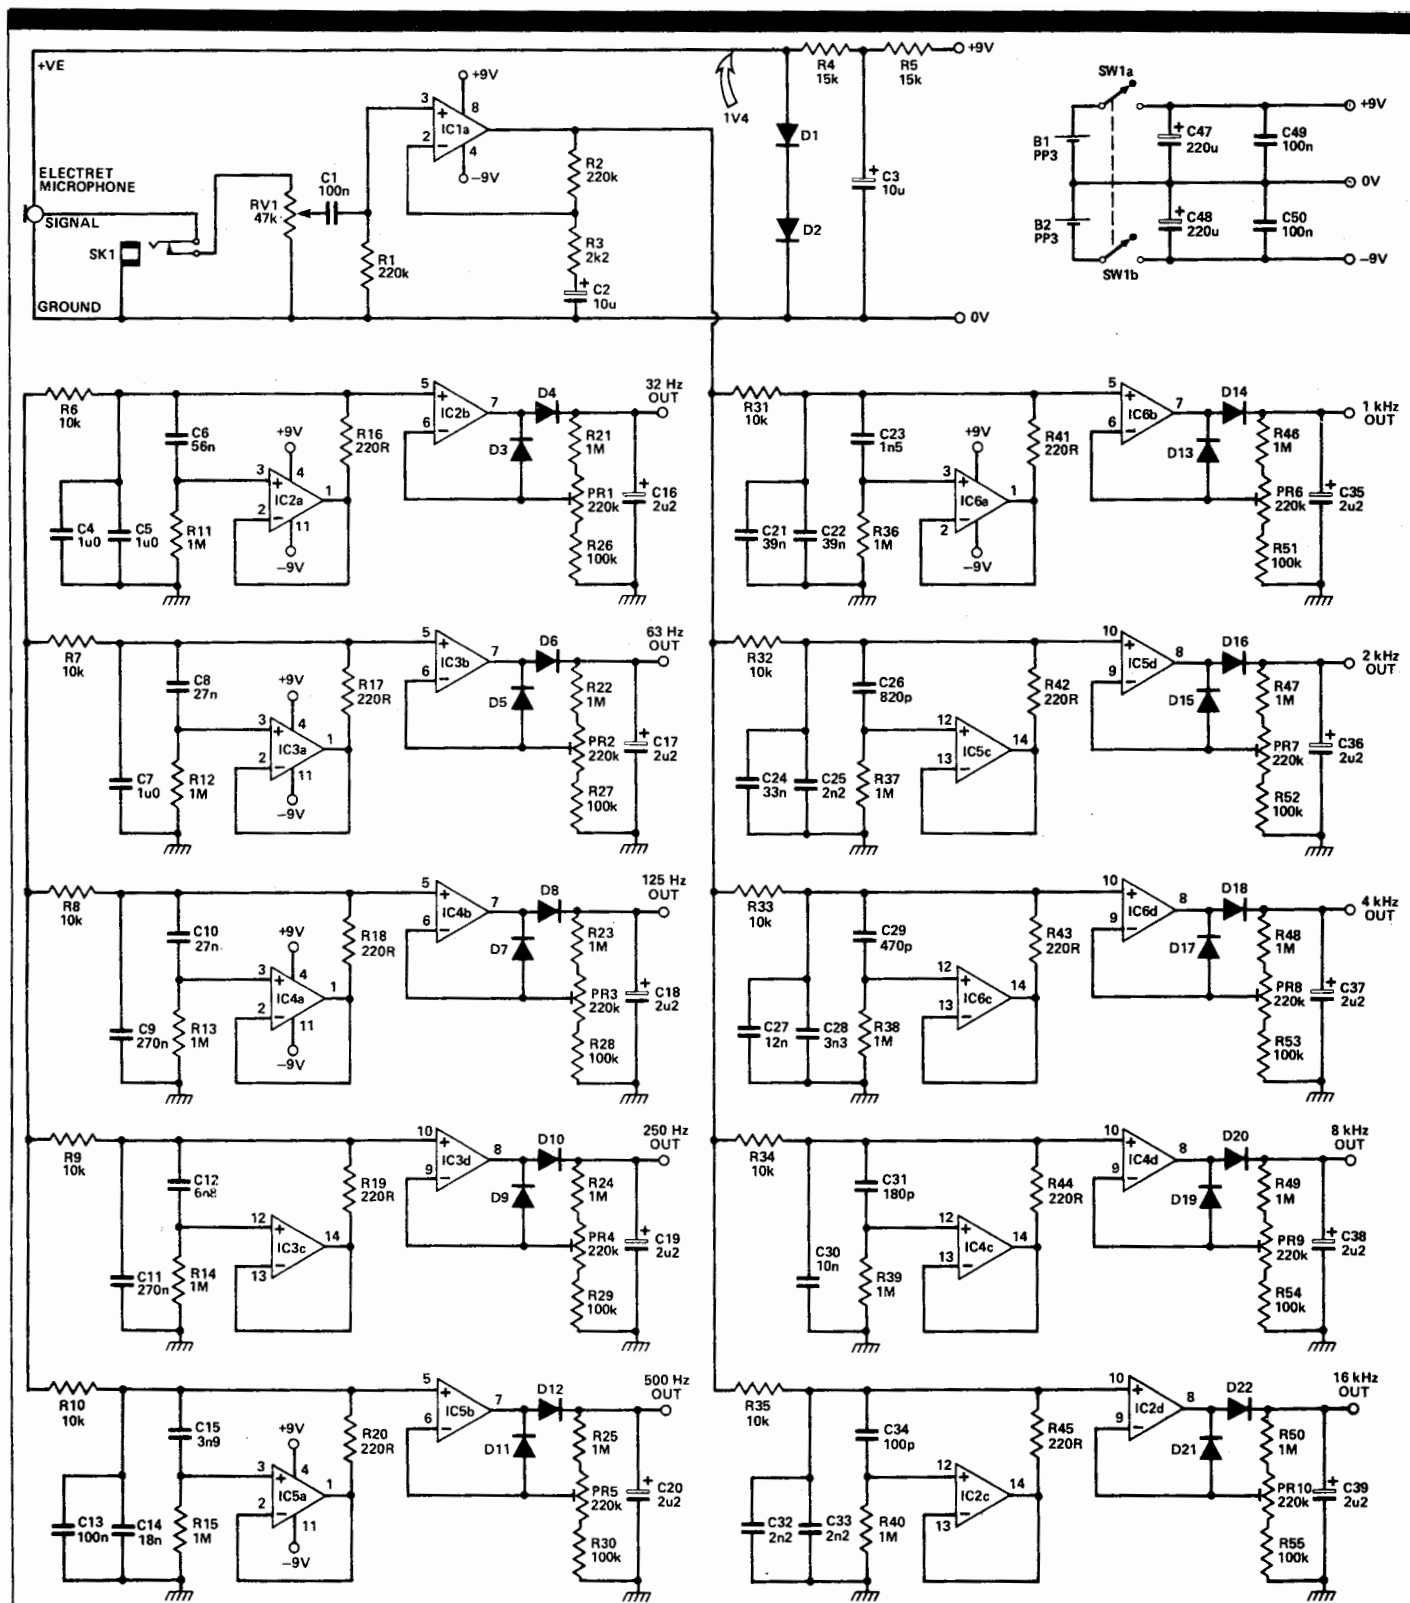

Fig. 1 The input and filter stages of the circuit.
The input to the circuit (Figure 1) is either from the built-in microphone or
**Fig. 1** Wiring the LED matrix; it is best to check all the LEDs before soldering them in, because replacing one will be very difficult once the boards are assembled.